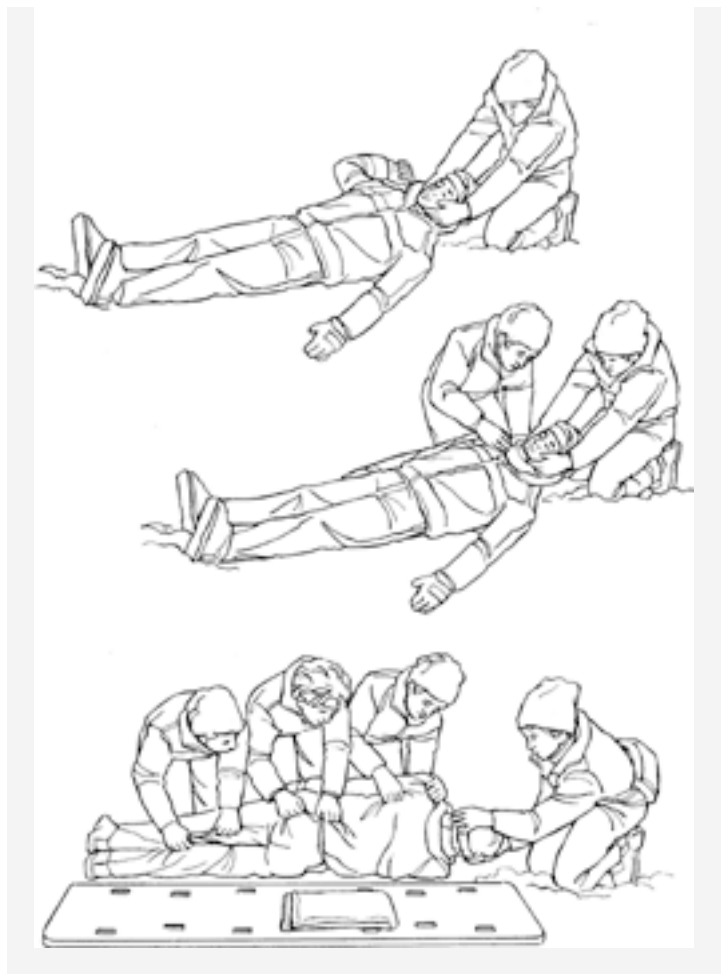

Figure 24-2: Logrolling a patient.
- Upon the first rescuer's command (at the head), the patient is slowly lowered ("rolled") back down on the backboard, pad, etc. (See figures 24-2 and 24-3.)